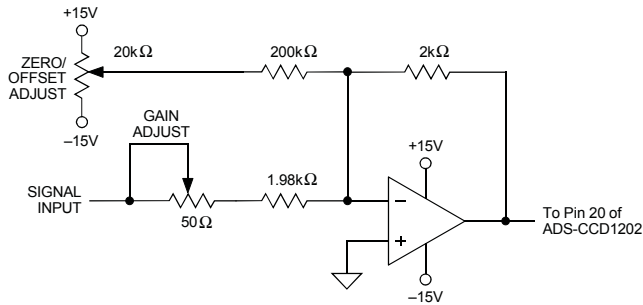

Figure 2. ADS-CCD1202 Calibration Circuit
Bypass all power supplies, as well as the REFERENCE OUTPUT (pin 21), to ground with 4.7µF tantalum capacitors in parallel with 0.1µF ceramic capacitors. Locate the bypass capacitors as close to the unit as possible. If the user-installed offset and gain adjusting circuit shown in Figure 2 is used, also locate it as close to the ADS-CCD1202 as possible.
- ADS-CCD1202 achieves its specified accuracies without external calibration. If required, the device's small initial offset and gain errors can be reduced to zero using the input circuit of Figure 2. When using this circuit, or any similar offset and gain-calibration hardware, make adjustments following warmup. To avoid interaction, always adjust offset before gain.
CALIBRATION PROCEDURE (Refer to Figures 2 and 3)
Any offset and/or gain calibration procedures should not be implemented until devices are fully warmed up. To avoid interaction, offset must be adjusted before gain. The ranges of adjustment for the circuit of Figure 2 are guaranteed to compensate for the ADS-CCD1202's initial accuracy errors and may not be able to compensate for additional system errors.
All fixed resistors in Figure 2 should be metal-film types, and multi-turn potentiometers should have TCR's of 100ppm/°C or less to minimize drift with temperature. In many applications, the CCD will require an offset-adjust (black balance) circuit near its output and also a gain stage, presumably with adjust capabilities, to match the output voltage of the CCD to the input range of the A/D. If one is performing a "system I/O calibration" (from light in to digital out), these circuits can be used to compensate for the relatively small initial offset and gain errors of the A/D. This would eliminate the need for the circuit shown in Figure 2.